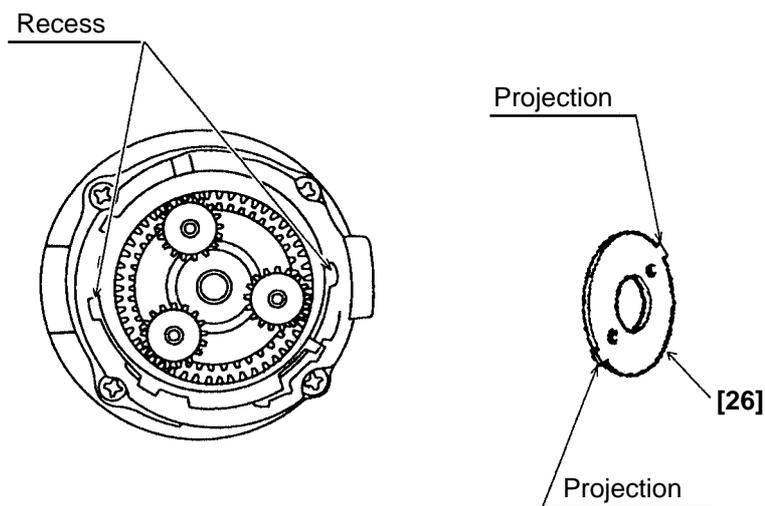

Fig. 8
- (ii) Install Washer (B) [26] in the Rear Case [17] with the projections of Washer (B) [26] engaged with the recesses in the Rear Case [17], and turn Washer (B) [26] clockwise until it can turn no further. (See Fig.8.)